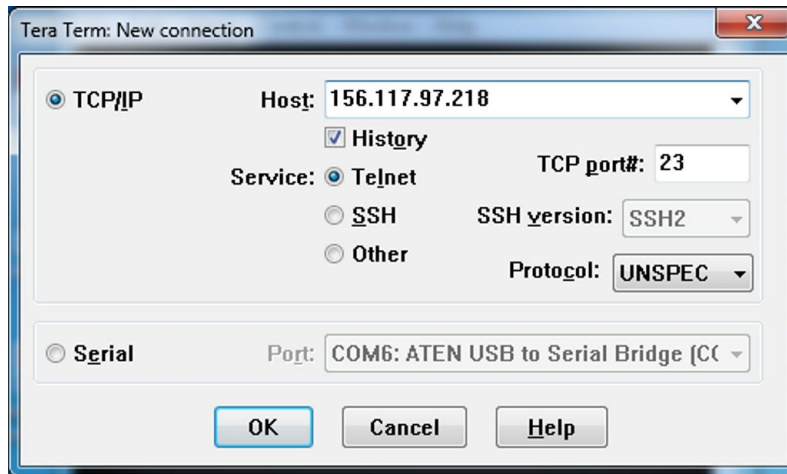

Figure 3. Tera Term: New Connection Setup — TCP/IP
- With the IP address determined in Step 3, return to the New connection window (Tera Term) and enter the IP address as shown in Figure 3.